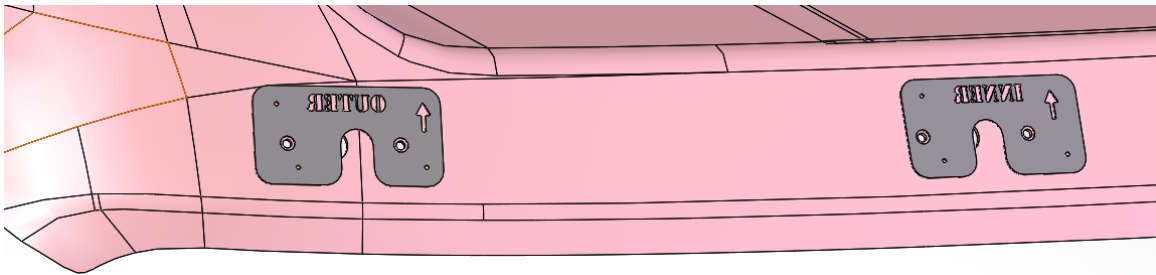

Figure 4: Correct Orientation of Templates on Passenger Side
6. Repeat Steps 3-5 on the passenger side. The Inner & Outer templates will be re-used, but the text should be backwards when the templates are positioned correctly. See Figure 4 below for reference.